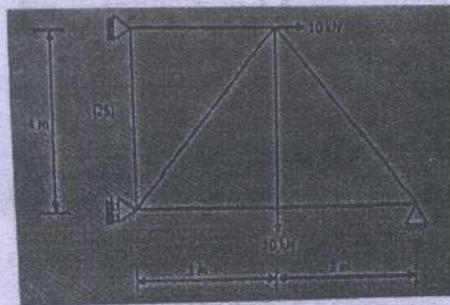

Fig.4.
9. Analyze the truss shown in Fig. 4 below by flexibility matrix methods. Also, evaluate the support reactions.